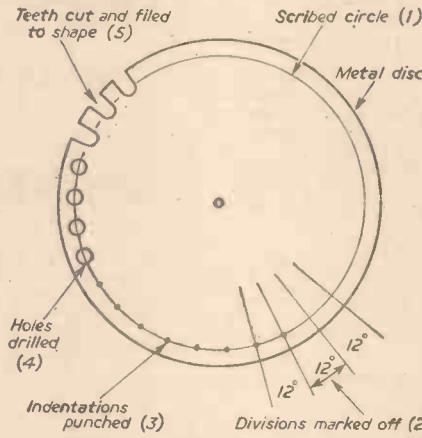

Fig. 7.—Making a timing wheel.
A timing wheel of the required type may be cut from thin sheet iron without undue difficulty, and Fig. 7 shows one method of doing this for a 30-tooth wheel running at 200 r.p.m. The centre hole should be an exact fit for the spindle, and the disc should be filed up as accurately as possible. The scribed circle (1) should be so placed as to give clearance for the drill, and the required number of divisions is marked off with a protractor. The intersections should be lightly punched to assure that the drill starts in the correct position. After drilling, sawing and filing completes the disc. With a little care a sufficient degree of accuracy may readily be